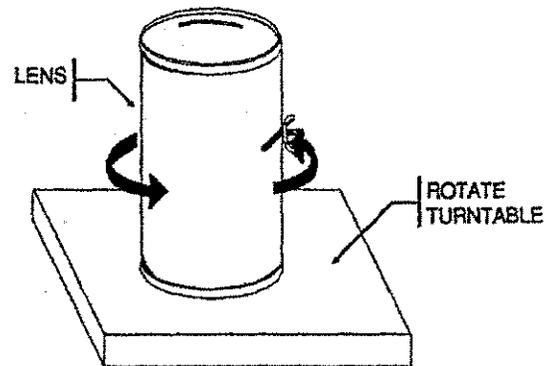

FIGURE 11-4.
- 1. Put the lens on a rotating device (if available.) Refer to figure 11-4.